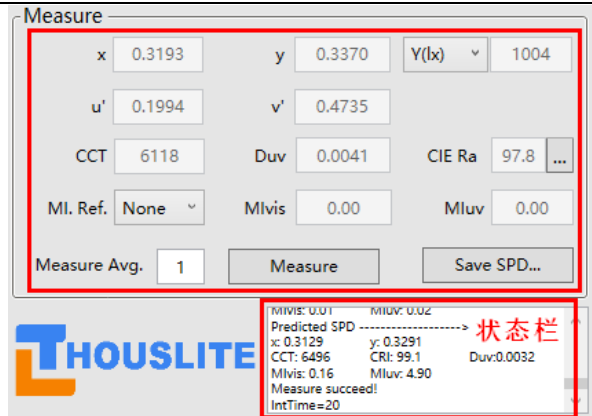

Fig. 6.3 Measured result after first measurement
- 7) Press *Measure*, the measured result is shown in Fig. 6.3, CCT=6118K, CIE Ra=97.8, which is relatively far from predict performance;